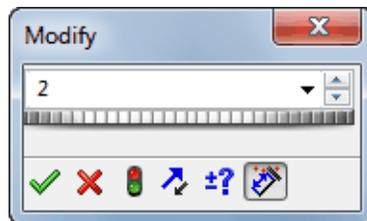

Figure 25 Changing the dimension to 2
- 26 Change the dimension to 2 on the Modify dialog box, and click  on the dialog box. The dimension units were set with the original template and do not need to be re-entered. See Figure 25.